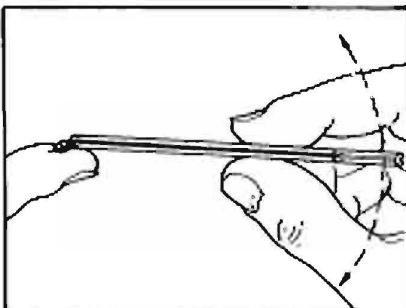

Figure 14. Tilt PRE-CAL tube to Regulate Blood Flow.
- (1). Puncture the fingertip with a REDI-LANCE Blood Lancet or equivalent disposable lancet.
- (2). Grasp the end of a PRE-CAL Tube nearest the calibration mark, between the thumb and forefinger. Do not obscure calibration mark.
- (3). Insert the end farthest from the calibration mark into the center of the drop of blood on the finger. NOTE: THE FINGERTIP SHOULD NEVER BE TIGHTLY SQUEEZED TO INCREASE BLOOD FLOW. Squeezing the finger will dilute the blood specimen with tissue fluid and cause a falsely low hematocrit reading. Hold the tube level (in a horizontal position) and observe the blood level as it approaches the calibration mark.
(4). FILL THE TUBE EXACTLY TO THE CALIBRATION MARK. The rate of filling may be accelerated by tilting the end near the calibration mark below horizontal. The rate may be retarded, stopped or reversed by tilting the same end above horizontal. (Figure 14).